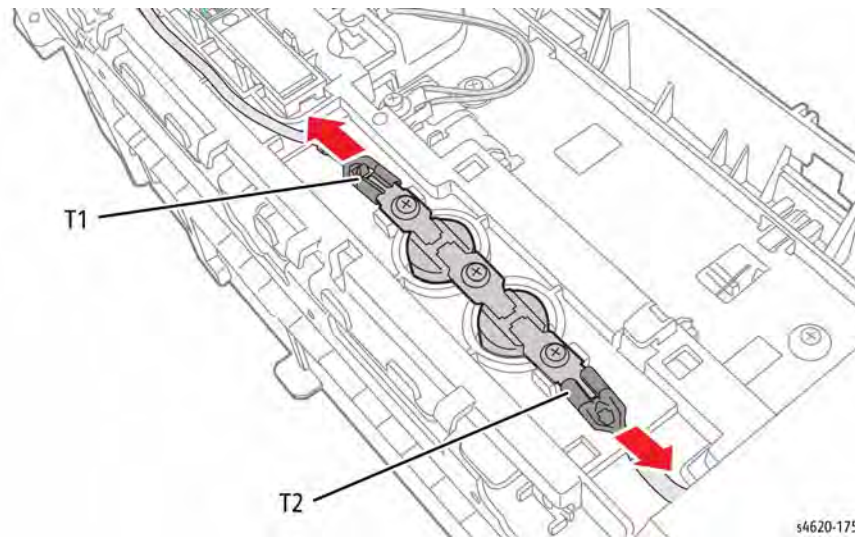

Figure 5 Disconnect the Thermostat
7. Disconnect 2 terminals (T1, T2) to the Thermostat, Figure 5.